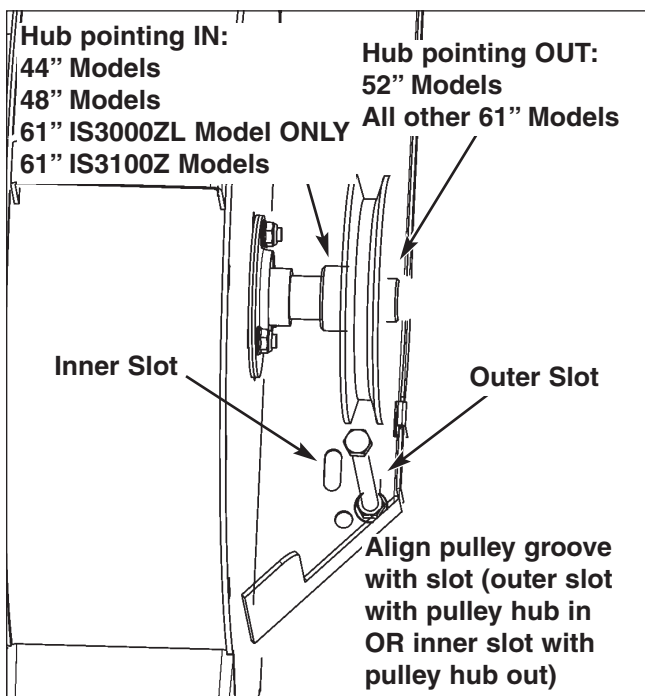

Figure 11. Install Impeller Drive Pulley
- Install the impeller drive pulley (A, Figure 11) onto the impeller shaft (B) as described in Figure 11. Install the 1/4" x 1-1/2" long key (not shown) in the pulley.
- Align the pulley groove with the appropriate slot as described in Figure 11. Tighten the set screws in the pulley.